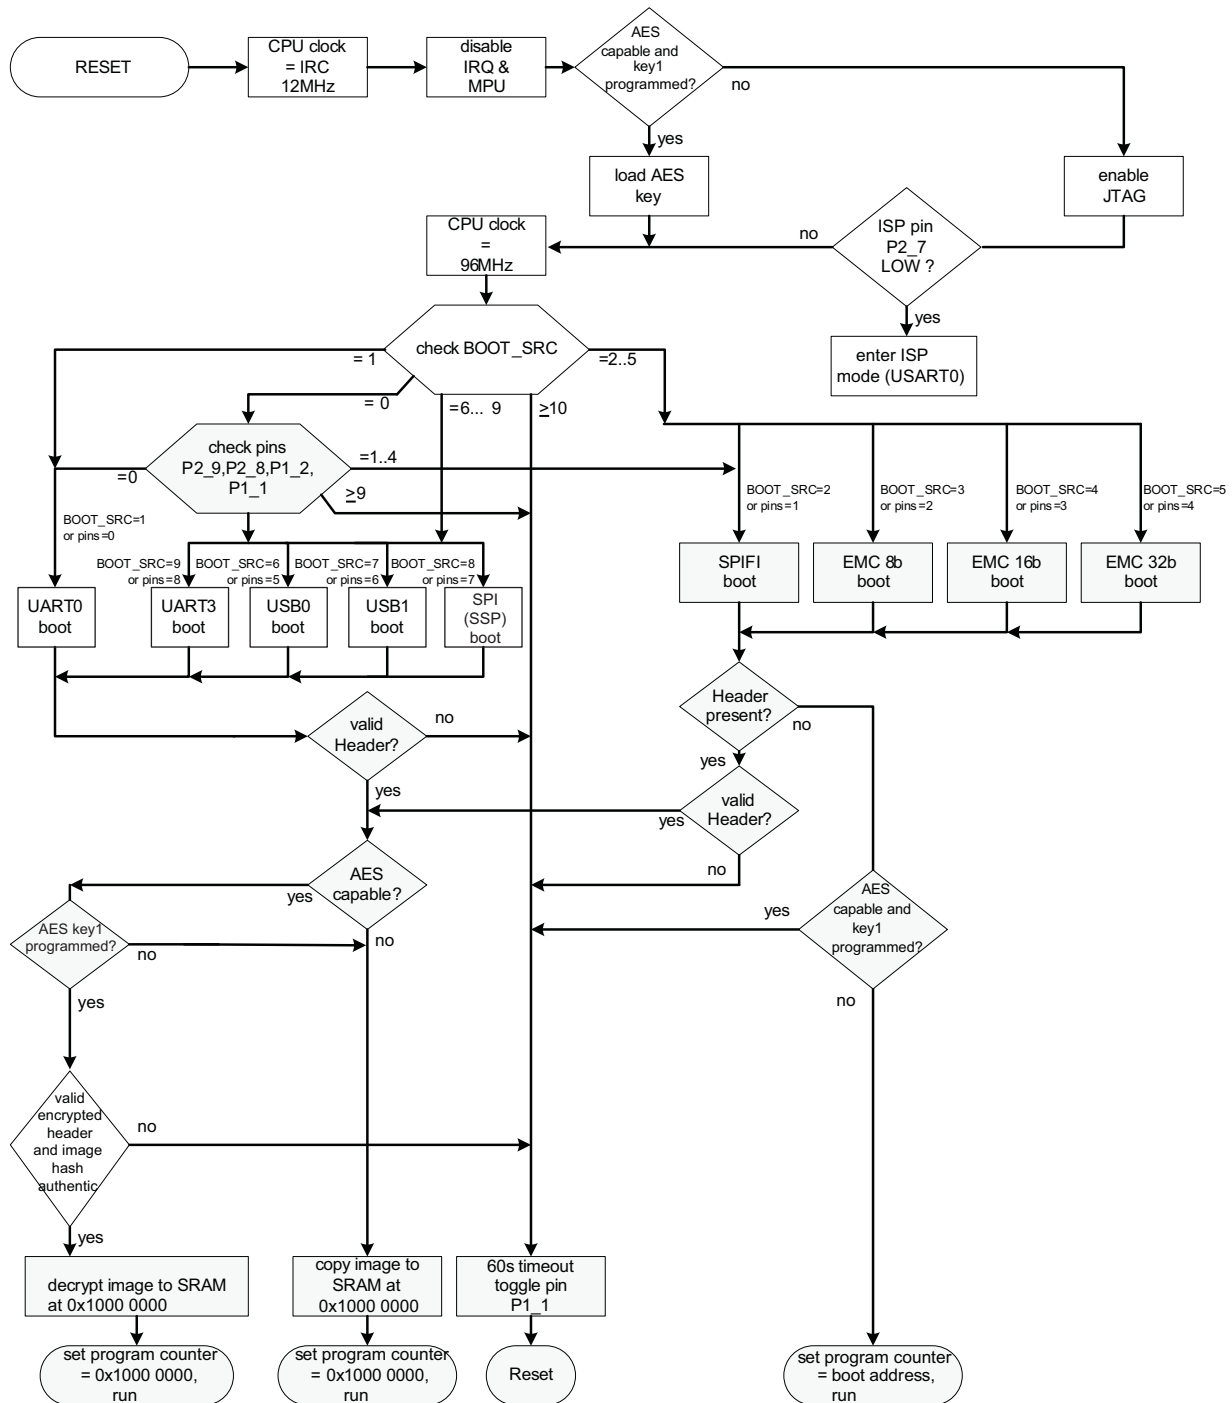

Fig 11. Boot process for parts without flash
The top level boot process is illustrated in Figure 11. The boot starts after Reset is released. The IRC is selected as CPU clock and the Cortex-M3 starts the boot loader. When the part is non-AES capable or it is AES capable but the AES key1 has not been programmed then JTAG access is enabled. If AES key1 has been programmed, JTAG is disabled.
As shown in Figure 11, the boot ROM determines the boot mode based on the OTP BOOT\_SRC value or reset state of the pins P1\_1, P1\_2, P2\_8, and P2\_9. The boot ROM copies the image to internal SRAM at location 0x1000 0000 and jumps to that location (sets ARM's shadow pointer to 0x1000 0000) after image verification. Hence the images for LPC18xx should be compiled with entry point at 0x0000 0000. On AES capable LPC18xx with a programmed AES key, the image and header are authenticated using the CMAC algorithm. If authentication fails the device is reset.